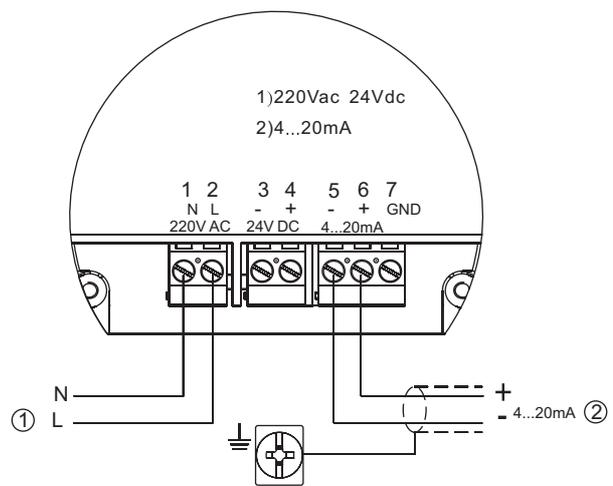

Fig.22
See in fig.22 the 4-wire HART connection (point ① shows the common supply and point ② the 4÷20mA signal).